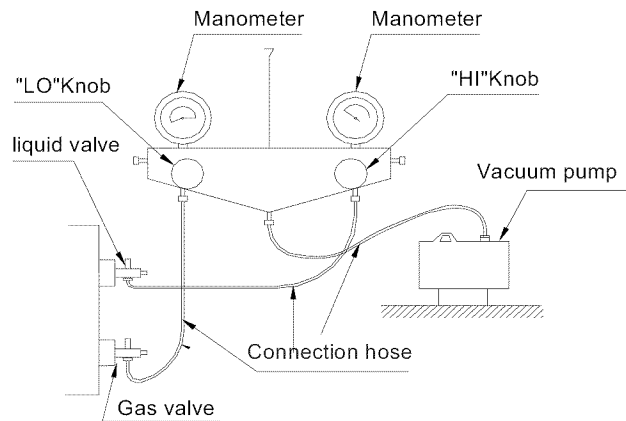

Fig 10
- (1) The refrigerant in the outdoor unit was charged before shipment. Additional refrigerant needs to be charged into the refrigerant pipe during the field installation.
- (2) Ensure the outdoor unit's liquid and gas valves are closed completely.
- (3) As shown in the following figure (Fig. 10), expel the gas inside the indoor unit and the refrigerant pipe with the vacuum pump.